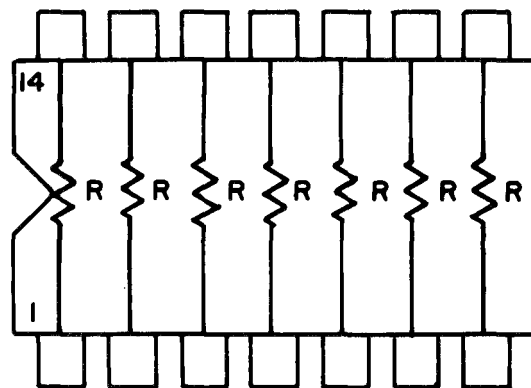

Figure 1-39. Resistor Network Schematic.
12. Resistor Network (889-3-ohm \pm 2%, 0.25w resistors. R150). This circuit (fig. 1-39) contains seven 150-